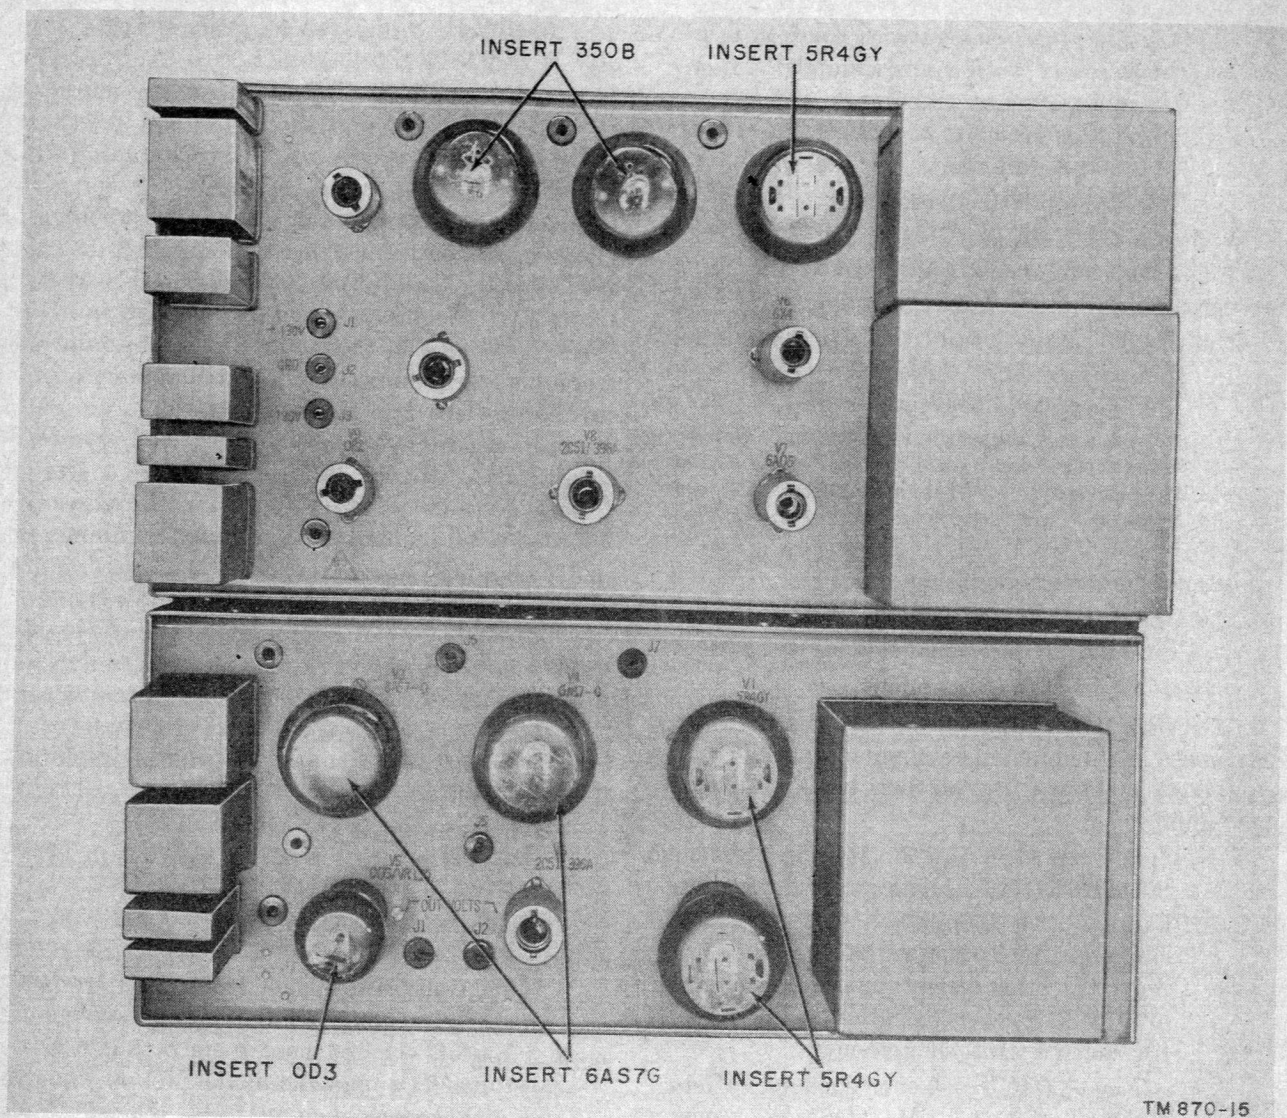

Figure 17. Installation of tubes shipped separately.
e. Installation of Components Removed for Safe Shipment. To install the components removed at the factory, follow the procedure in (1) through (10) below:
- (1) Open the rear door of Radio Receiver R-369/FRC-10, using the flush-latch handle. To facilitate location in the shipment of components, refer to appendix I, the master packing list, Exhibit B-(*), or specification KMD 5000, furnished with the shipment.
- (2) Insert 5R4GY tubes into sockets V1 and V2 in panel 7, the +250-volt power supply chassis (fig. 17).
- (3) Insert 6AS7G tubes into sockets V3 and V4 in panel 7 (fig. 17).
- (4) Insert an 0D3 tube into socket V5 in panel 7 (fig. 17).
- (5) Insert a 5R4GY tube into socket V1 in panel 6, the ±130-volt power supply chassis (fig. 17).
- (6) Insert 350B tubes into sockets V2 and V3 in panel 6 (fig. 17).